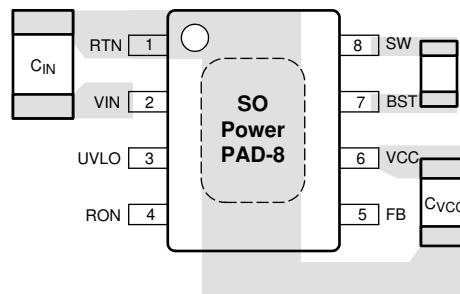

Figure 10-1. Placement of Bypass Capacitors
1. C_{IN} : The loop consisting of input capacitor (C_{IN}), V_{IN} pin, and RTN pin carries switching currents. Therefore, the input capacitor must be placed close to the IC, directly across V_{IN} and RTN pins and the connections to these two pins should be direct to minimize the loop area. In general it is not possible to accommodate all of input capacitance near the IC. A good practice is to use a 0.1- μ F or 0.47- μ F capacitor directly across the V_{IN} and RTN pins close to the IC, and the remaining bulk capacitor as close as possible (see Figure 10-1).
2. C_{VCC} and C_{BST} : The V_{CC} and bootstrap (BST) bypass capacitors supply switching currents to the high-side and low-side gate drivers. These two capacitors must also be placed as close to the IC as possible, and the connecting trace length and loop area should be minimized (see Figure 10-1).